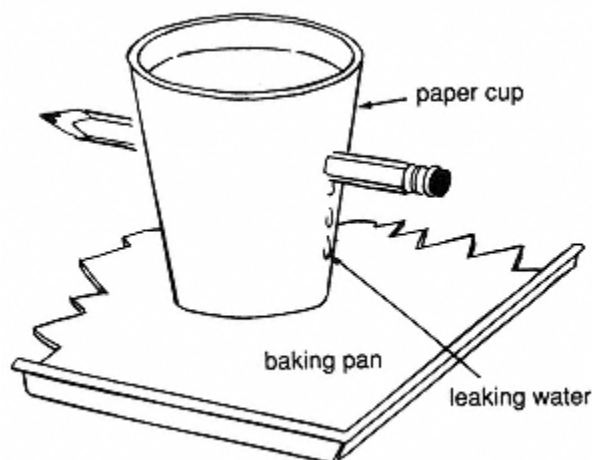

Figure 23.1
5. Leave the pencil in place and observe any leakage around the pencil (see Figure 23.1).